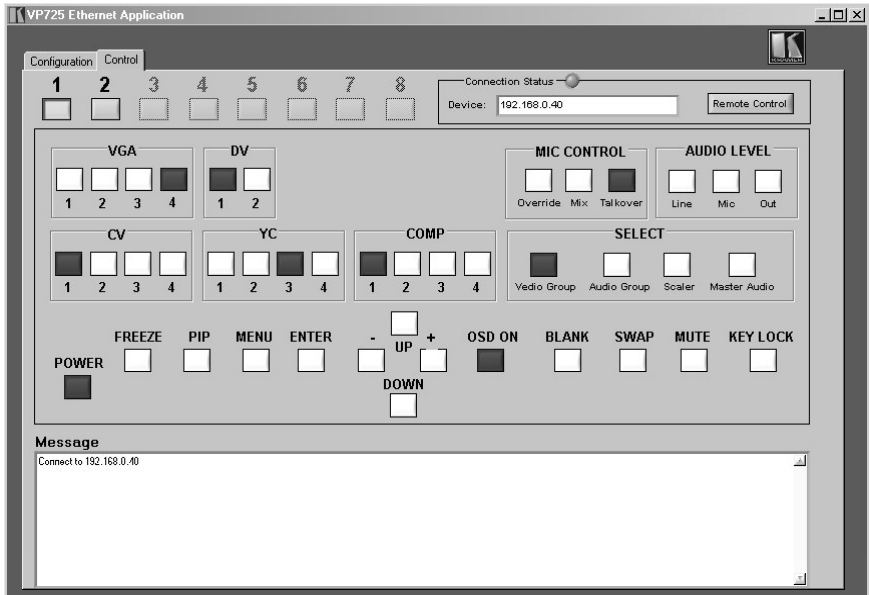

Figure 60: VP725 Ethernet Application Main Dialog Box (Control Tab)
1. On the *VP725 Ethernet Application* screen, click the **Control** tab. The Control screen appears (see Figure 60). The Control tab includes a set of control buttons, which enable you to operate and control the machine via the Ethernet or serial ports, according to the configuration.